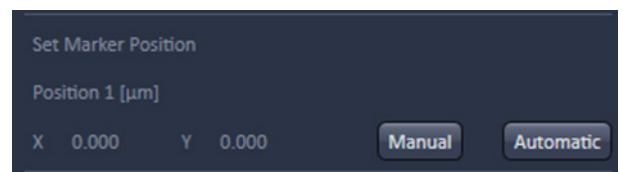

Fig. 179 Position 1 field
- Click **Automatic** in the **Position 1** field (Fig. 179).